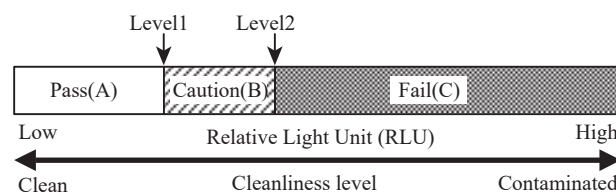

Fig. 3: Setting Benchmark Level for Cleanliness Level Control
Benchmark levels 1 and 2 are set to determine whether cleanliness levels are at acceptable levels or not (see Fig. 3). Cleanliness levels are designated as Pass (A) if the measured amount of luminescence falls below level 1 and as Fail (C) if the amount is higher than level 2. With Fail (C), cleaning will need to be redone and cleaning procedures may need to be revised. Cleanliness levels where the measured amount of luminescence is above level 1 but below level 2 are designated as Caution (B), and it is recommended that cleaning be redone and cleaning procedures revised in such cases.